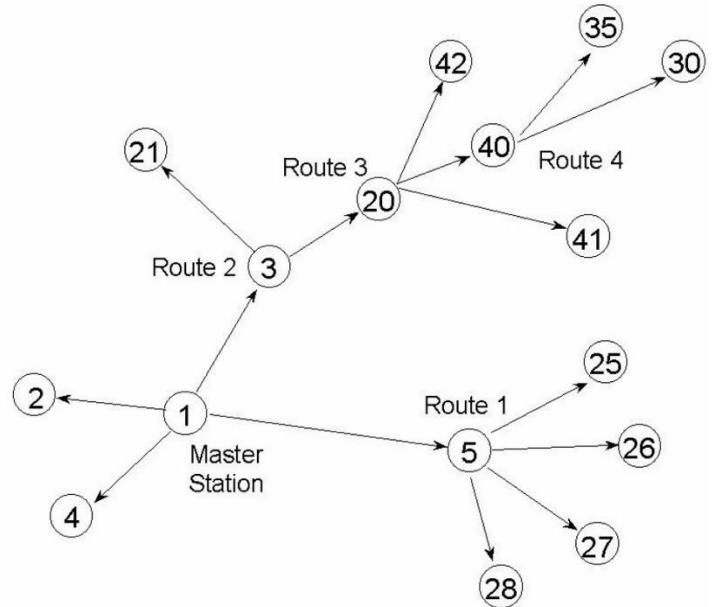
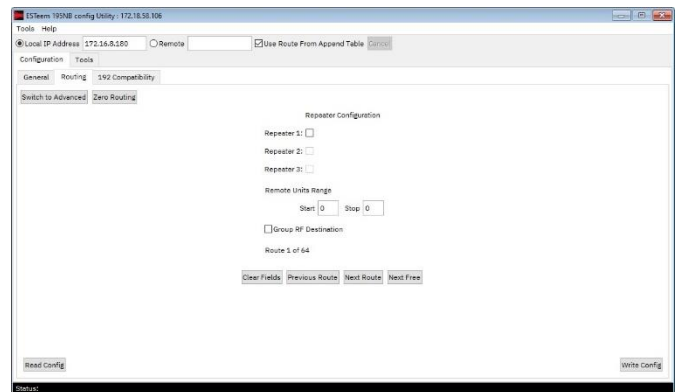

Figure 1: Repeater Example
Figure 2: Route Entry Basic View
Any ESTeem Model 195M, 195H or 195C in the wireless network can be used as a repeater to reach a remote location. Manually entering repeater routes in a terminal for testing a connection (connect command) or remote programming (program command) is as simple as adding the routing in the address with the repeaters identified by commas. For example, using Figure 1, if your computer is connected to the ESTeem 195M/H/C at the Master Station and you want to connect to address 21, your command would be “connect 3,21”. Also, if you wished to connect to address 30 from the Master Station your command would be “connect 3,20,40,30”.
Figure 1 shows a complex, 16 node site with four (4) repeater routes. This example will illustrate the terms used in the utility and how they correspond to the stations in your site.
Look in Figure 1 and note that four of the ESTeems will relay the radio signal for other ESTeems (addresses 3, 5, 20 and 40). These are the repeater routes. A total of four repeater routes will need to be completed for this site.
Route 1: To complete the first repeater route entry, refer to Figure 1 and find repeater address 5 (Route 1). The ESTeem/PLC addresses that use this route are addresses 25-28. In the 195 Narrowband Configuration Utility select the Routing tab (Figure 2 will be displayed). In Repeater 1 entry, enter the repeater address (Address 5). Lower on the page find Remote Units Range and enter the address group that will use this repeater site (Figure 3).
Route 2: Refer to Figure 1 and find Route 2. This route has a repeater address of 3 and addresses 20 through 21 use this route. Note: Although address 20 is a repeater for another route, it requires an ESTeem address and needs to be counted. Type 3 in the first repeater block, 20 in the first address field and 21 in the second (Figure 4).